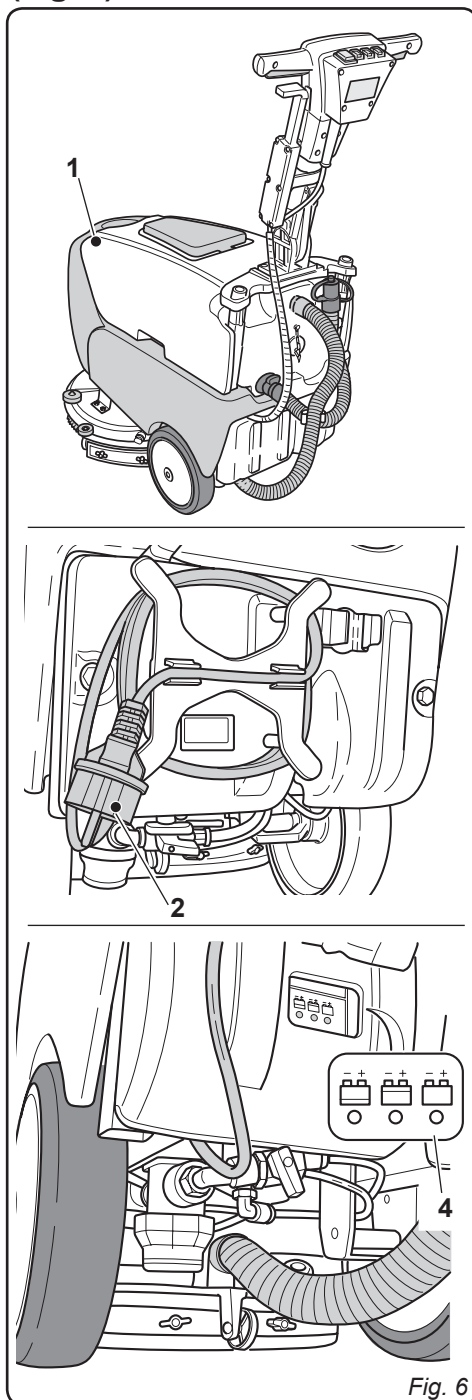

Fig. 6
4.1 CHARGING THE BATTERY (Fig. 6)